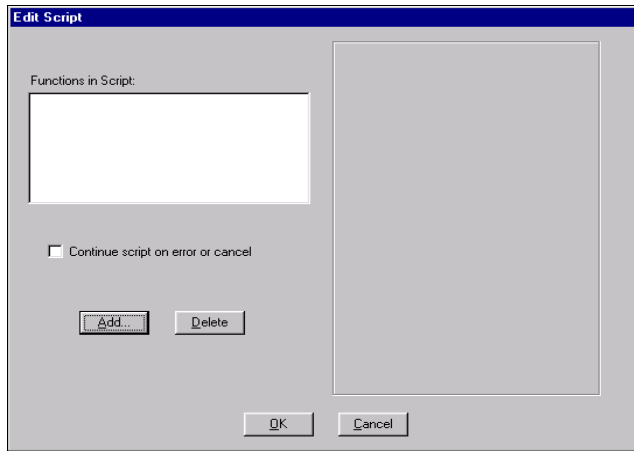

Figure 5-104 Edit Script Dialog Box
2. Click **Edit**. The Edit Script dialog box displays, as shown in Figure 5-104: